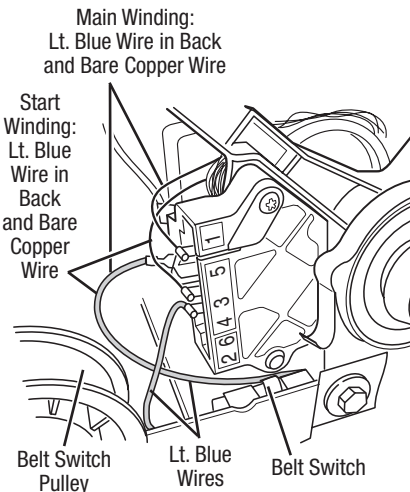

Figure 9. Main and start winding measure points and checking the belt switch.
6. Using figure 9, check for the resistance values of the motor's Main and Start winding coils as shown in the following table:
7. Check the belt switch by measuring resistance between the two light blue wires, as shown in figure 9, while pushing up the belt switch pulley.